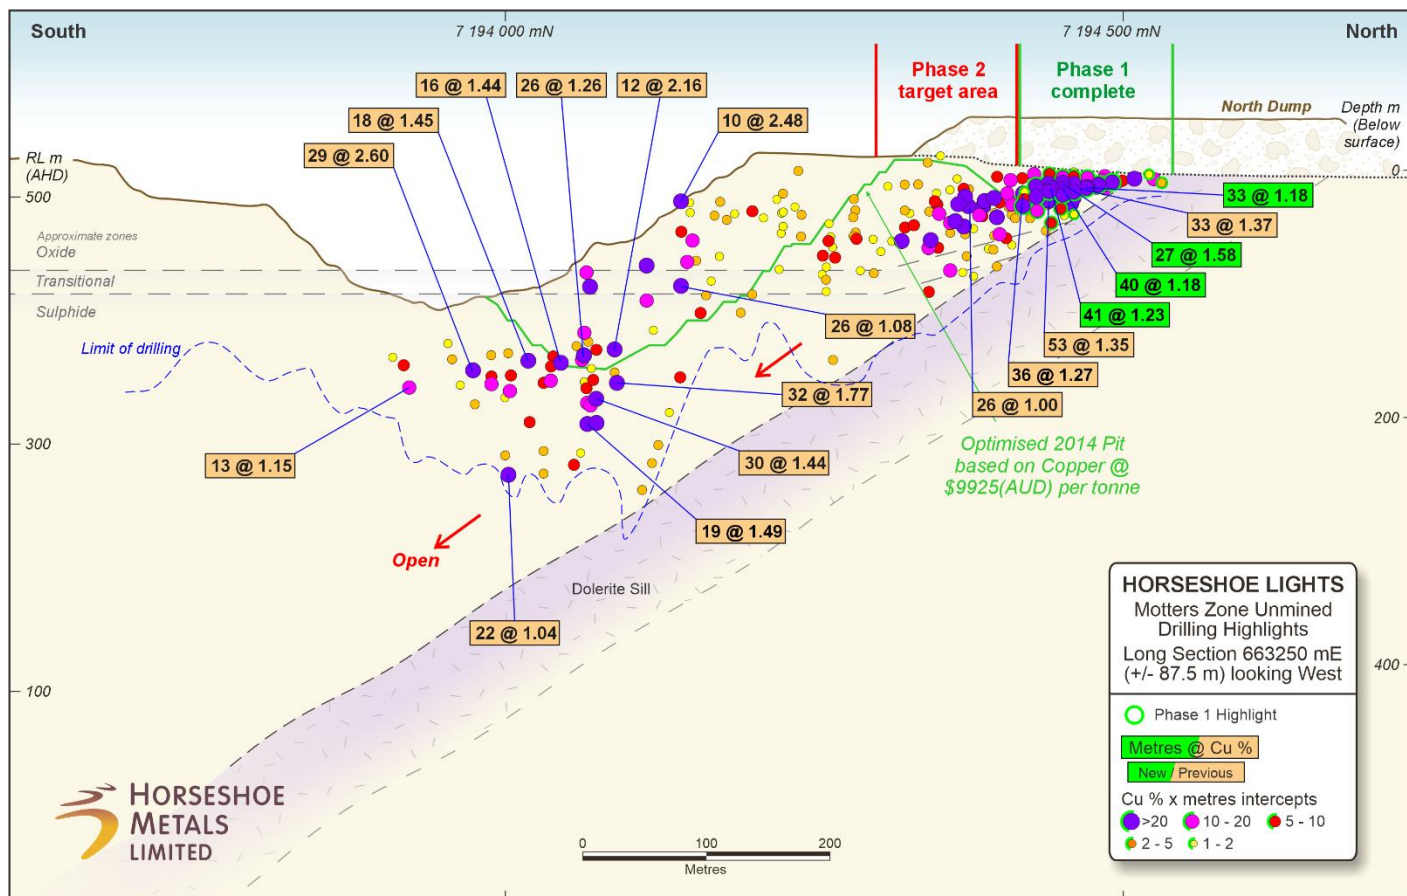
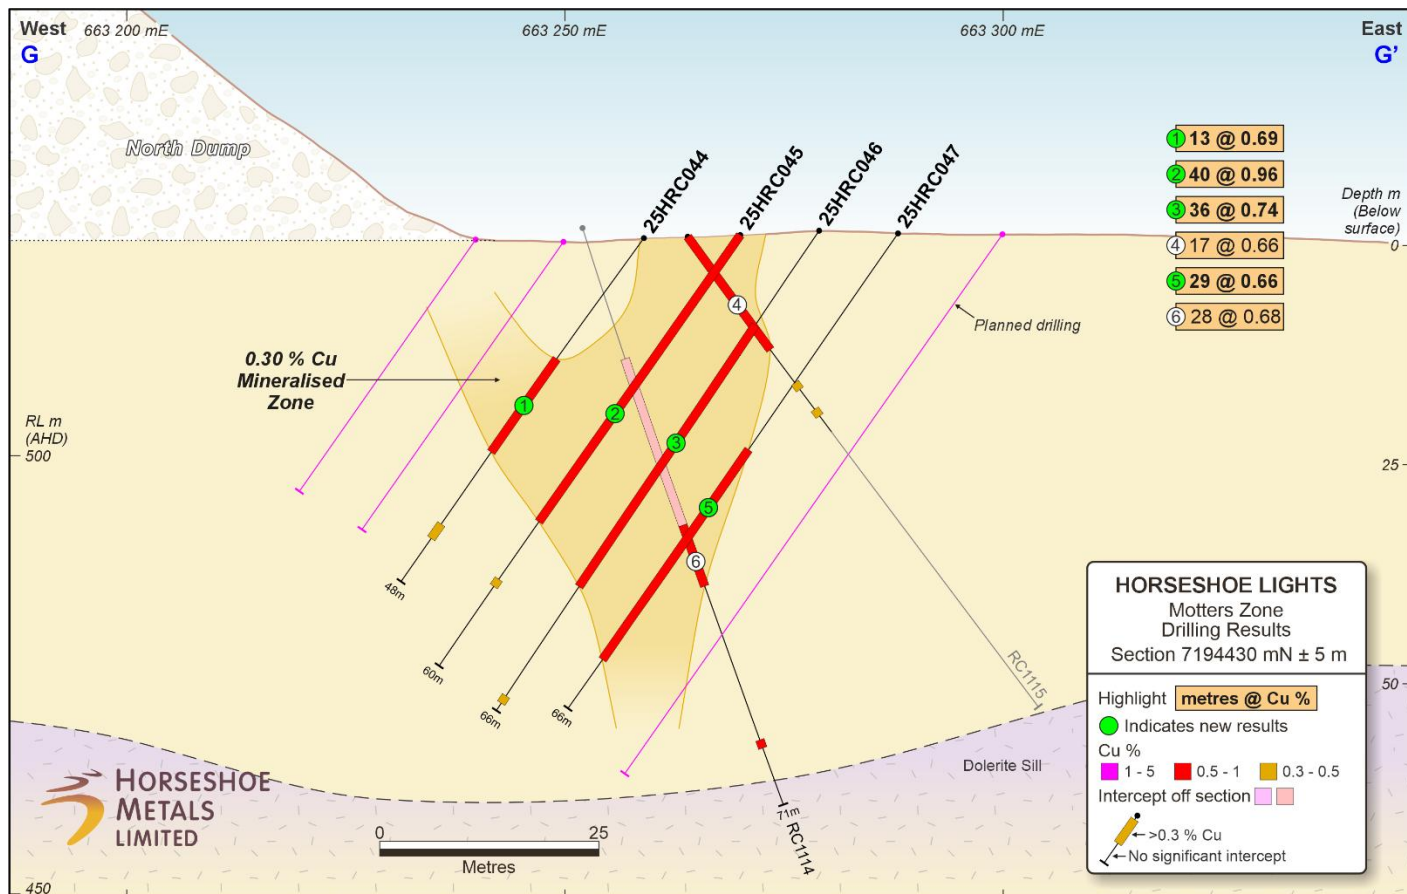

Figure 2: Motters Long Section looking west showing Phase 1 and Phase 2 areas of near surface oxide
Figure 3: Motters Zone Cross Section G-G' showing close spaced RC drill results in oxide zone
- Phase 2 RC drilling will commence in January and focus on the offset southern extension toward the Northeast corner of the HSL open pit where several significant drill intercepts have been previously recorded (see Figure 2)
Oxide to transitional mineralisation at Motters Zone is interpreted to extend from surface to between 40 and 60 metres below surface (Figures 2 to 4). Motters Zone averages about 20 metres in width and dips steeply to the west at about 80 degrees (Figures 3 and 4).